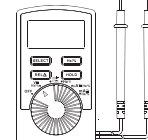

Figure 2
1. Measuring DC Voltage(See Figure 2)
2. Measuring AC Voltage (See Figure 2)